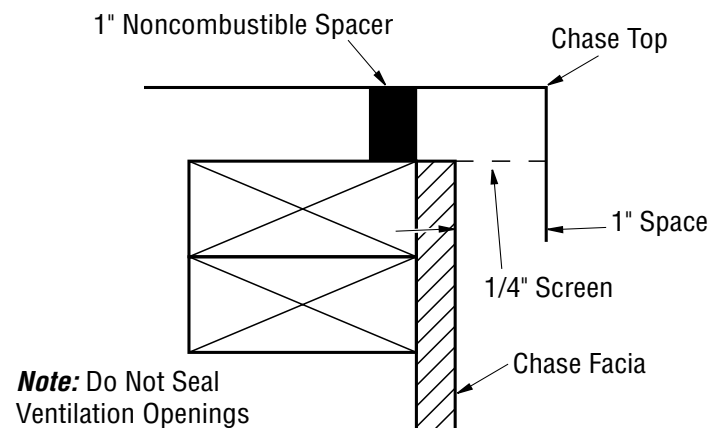

Figure 27 - Chase Top Flashing
4. Attach noncombustible spacers at each corner and place flashing over chase (see Figure 27). Secure flashing through sides with 8-penny nails or sheet rock screws.